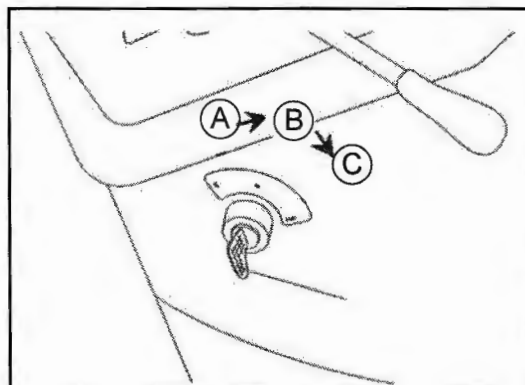

Fig. 12-3 - Ignition Switch
8. **Ignition Switch -** To operate the three switch functions, turn the ignition key (1) through the following positions. (See Fig. 12-3).